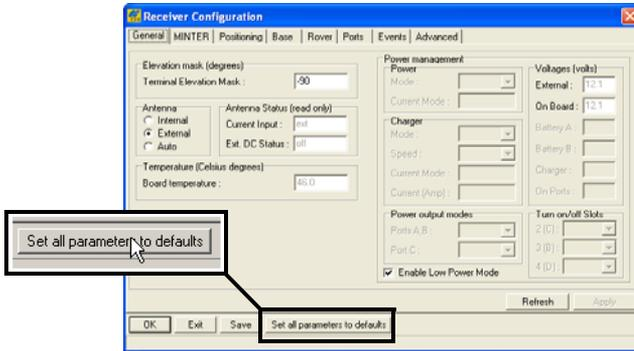

Figure 3-2. Set All Parameters to Defaults
- Click **Set all parameters to defaults** (Figure 3-2).